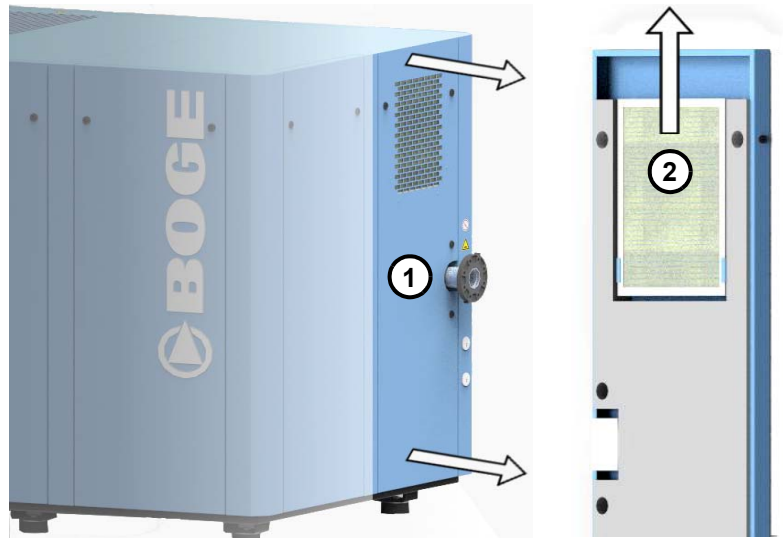

Fig. 6.4: Changing the filter mat on the compressed air outlet side
1. Remove the side cladding from the machine as shown in figure 6.4 (1).
2. Take the filter mat out of the holder on the inside of the cladding from above as shown in figure 6.4 (2).